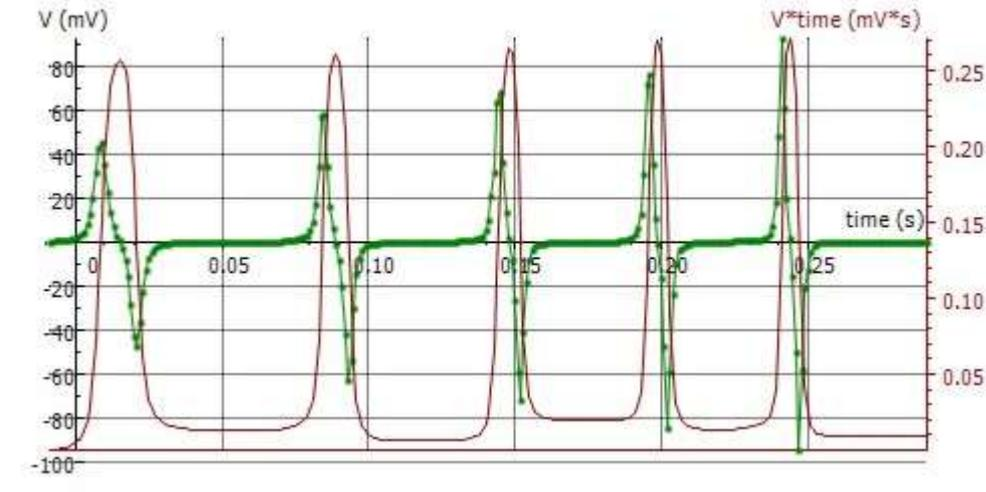

Fig. 3: Change in induced voltage U and magnetic flux Φ over time
In the experiment, a permanent bar magnet is allowed to fall through six identical induction coils that are connected in series. The induced voltage is recorded as a function of time (green curve in Fig. 3).
The green curve in Fig. 3 shows the trace of how voltage changes over time.
The plot in the "Integral" window shows the variable "V*t" in units of "mV*s" (violet curve in Fig. 3). This corresponds to the magnetic flux Φ in equation (2)
The magnetic flux reaches a maximum when the induced voltage returns to zero (Fig. 3), i.e. when the magnet has reached the centre of the coil. The area of the surfaces under all the positive and negative signal peaks remains the same in absolute terms (see above). This corresponds to the maximum magnetic flux Φ of the permanent magnet inside an individual coil. The maximum magnetic flux therefore reaches the same value of $\Phi_{\max} \approx 250 \mu\text{Vs}$ within the given measurement tolerances.